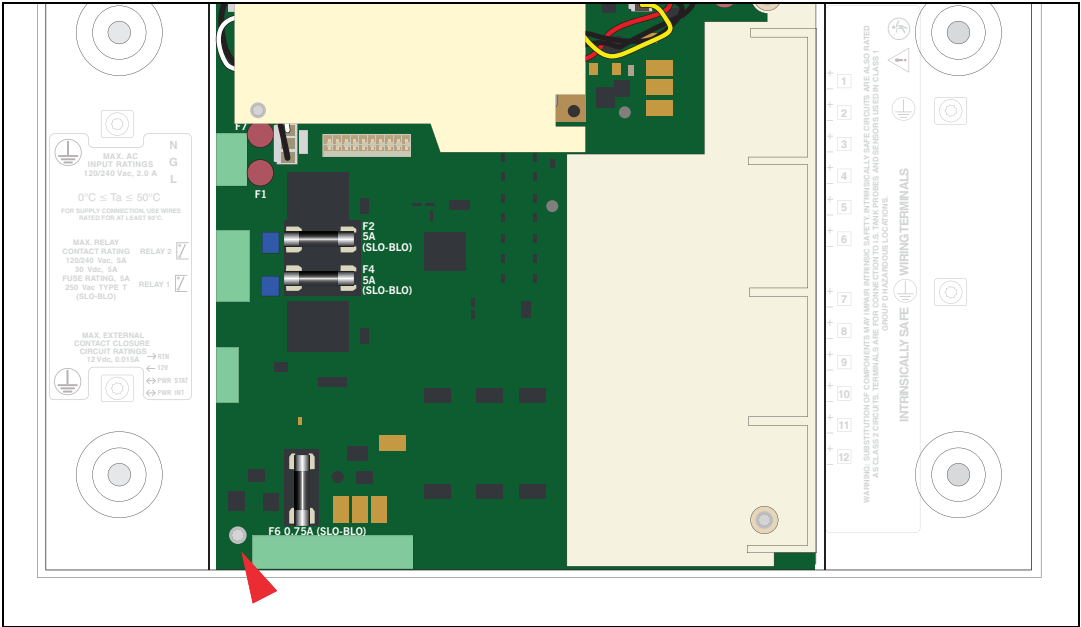

Figure 10. Remove Lower Left Corner USIOM Board T15 Screw
6. Remove the T15 #6 x 0.375 screw from the lower left corner of the USIOM board (see Figure 10) and set it aside.